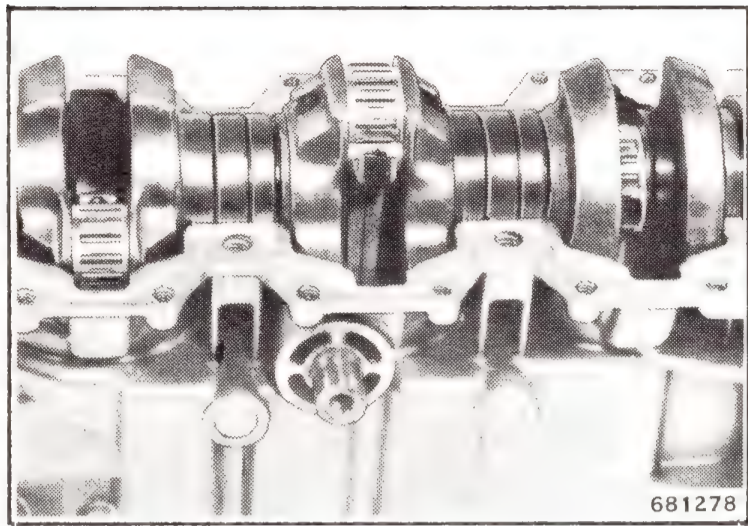

Figure 5-32. Roller Bearings and Retainers
d. Apply a coat of OMC Needle Bearing Grease to crankpins. Install 2 roller bearings and remaining retainer half on each crankpin. Place the remaining 7 roller bearings in each retainer. See Figure 5-32.